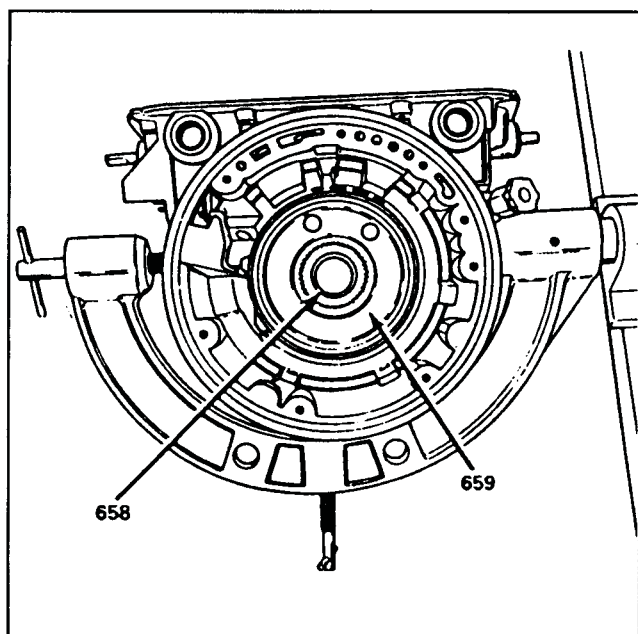

Figure 91
7. Install the reaction sun gear splining it into the reaction drum, as shown in Figures 91 and 93.